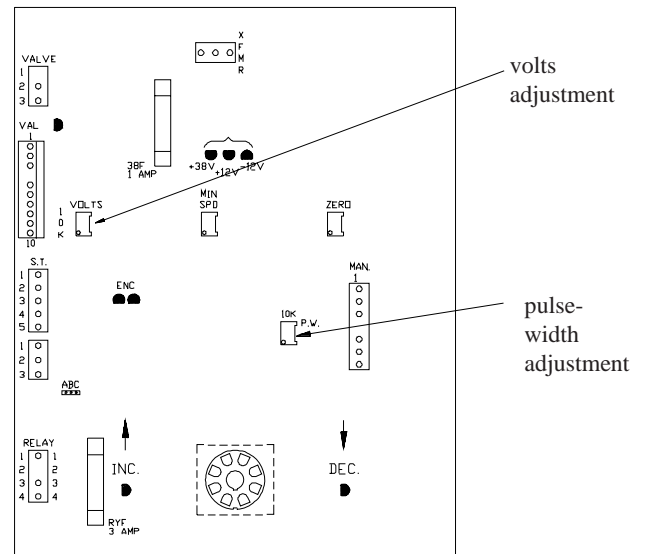

Figure 6-7. Pulse-Width Adjustment
2. Turn the volts adjustment (Figure 6-7) completely to the left or right until you hear a click.